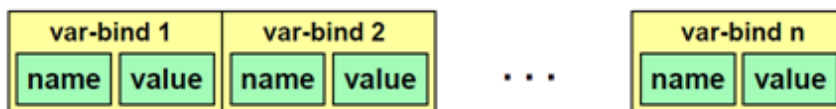

Figure 5: VarBind and VarBind List
**OID:** Object Identifier is the unique name (identifier) that is associated with each type of data element in a MIB. This is a defined ASN.1 type. “A value (distinguishable from other such values) that is associated with an object identifier type. A simple type whose distinguished values are the set of all object identifiers allocated in accordance with the rules of [ASN.1].” The number or address by which a data element may be located on the NTCIP or TCIP object tree. The OID generation is shown in Figure 5.